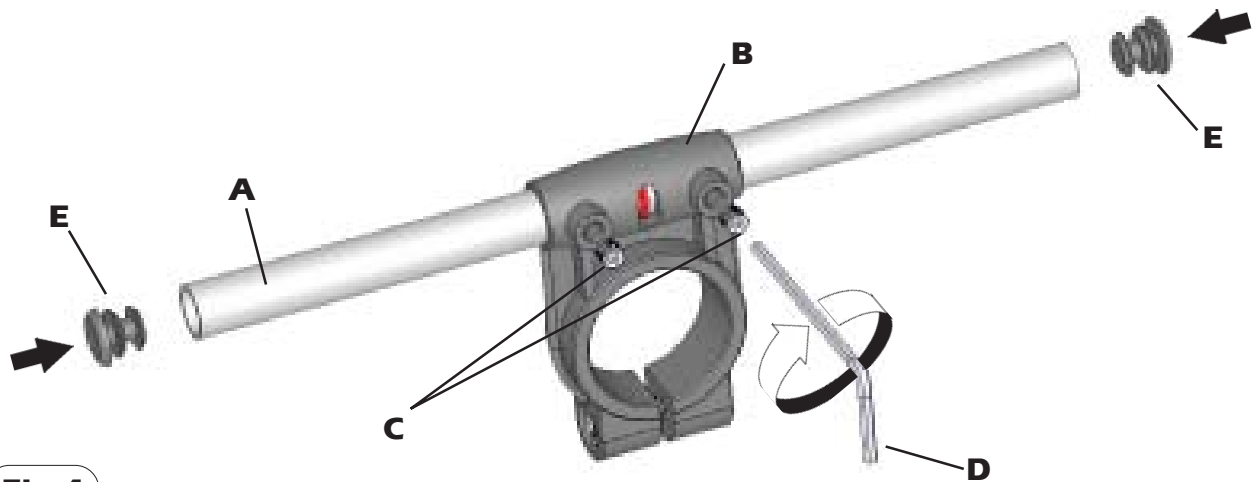

Fig.4
2) Place the reference marker of the aluminium element **A** in the centre of the plastic support **B** (see **fig. 3**) and lock the screws **C** by the supplied key **D** (**fig. 4**). When the screws touch the aluminium tubes you can finally lock them turning for 1.5 turns.
3) Insert the plastic caps **E** on the aluminium elements **A** (see **fig. 4**)